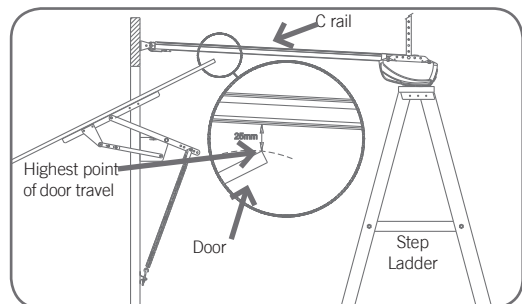

Fig. 20
- Stop the door when it is at its highest point of travel. Allow 25mm additional height for clearance between the door and the track (**Fig. 20**).